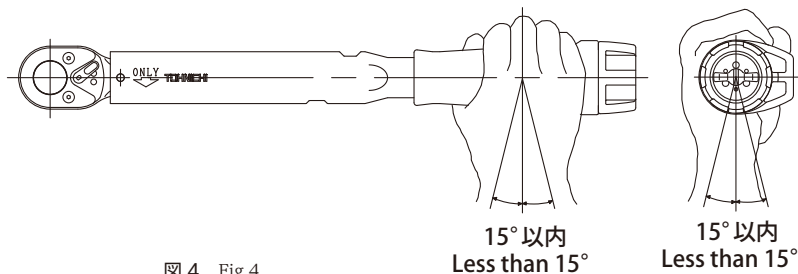

図 4 Fig.4
上下左右とも± 15°以内にします。(図 4)
- The loading direction must be at a right angle to the torque wrench. The tolerance is plus/minus 15 degrees of horizontal or vertical deviation. See Fig. 4.